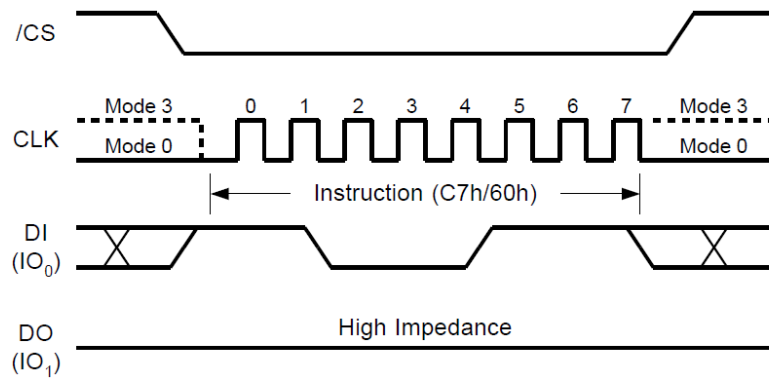

Figure18. Chip Erase Sequence Diagram
The Chip Erase command sequence: CS# goes low → sending Chip Erase command → CS# goes high. The command sequence is shown in Figure18. CS# must be driven high after the eighth bit of the command code has been latched in; otherwise the Chip Erase command is not executed. As soon as CS# is driven high, the self-timed Chip Erase cycle (whose duration is  $T_{ce}$ ) is initiated. While the Chip Erase cycle is in progress, the Status Register may be read to check the value of the Write in Progress (BUSY) bit. The Write in Progress (BUSY) bit is 1 during the self-timed Chip Erase cycle, and is 0 when it is completed. At some unspecified time before the cycle is completed, the Write Enable Latch (WEL) bit is reset. The Chip Erase (CE) command is executed, if the Block Protect (BP2, BP1, and BP0) bits are 0 and CMP=0 or the Block Protect (BP2, BP1, and BP0) bits are 1 and CMP=1.